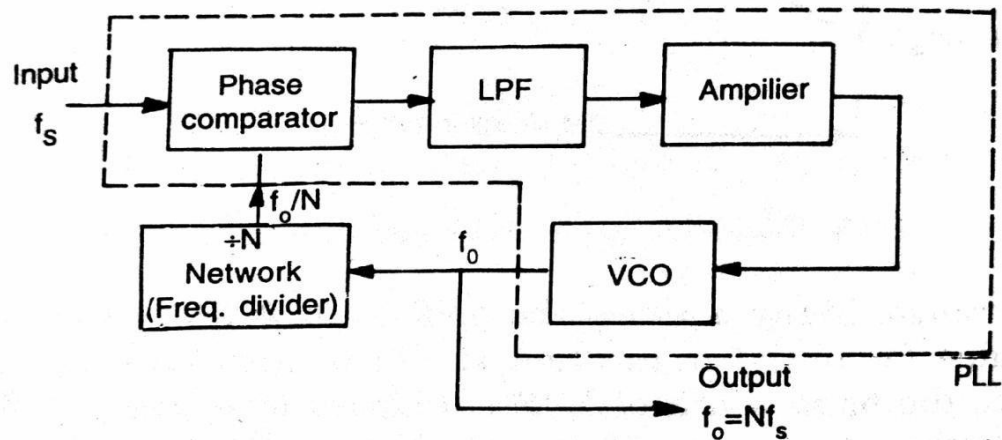

Fig. 9.12 Frequency multiplier using IC PLL
- Figure 9.12 gives the block diagram of a frequency multiplier using PLL.